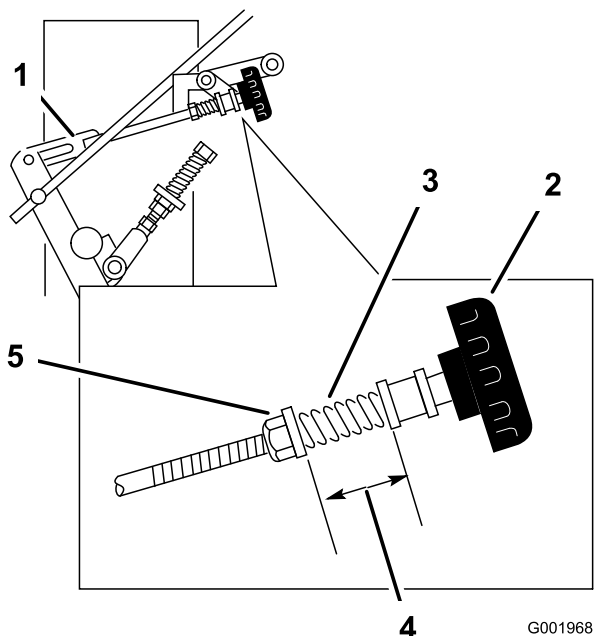

Figure 50
4. Adjust the right side linkage by turning the quick track knob counterclockwise until the tire begins to rotate forward (Figure 50).
5. Turn the knob clockwise a 1/4 of a turn at a time. Then move the speed control lever forward and back to neutral. Repeat this until right wheel stops rotating forward (Figure 50).
6. The spring that keeps tension on the knob should normally not need adjustment. However if an adjustment is needed, adjust the length of spring to 1 inch (26 mm) between the washers (Figure 50).
7. Adjust the spring length by turning the nut at the front of spring (Figure 50).